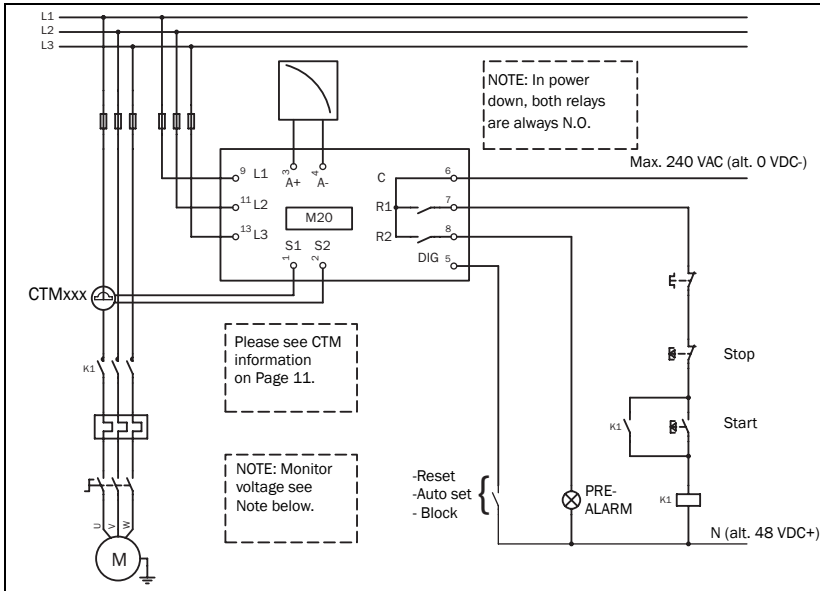
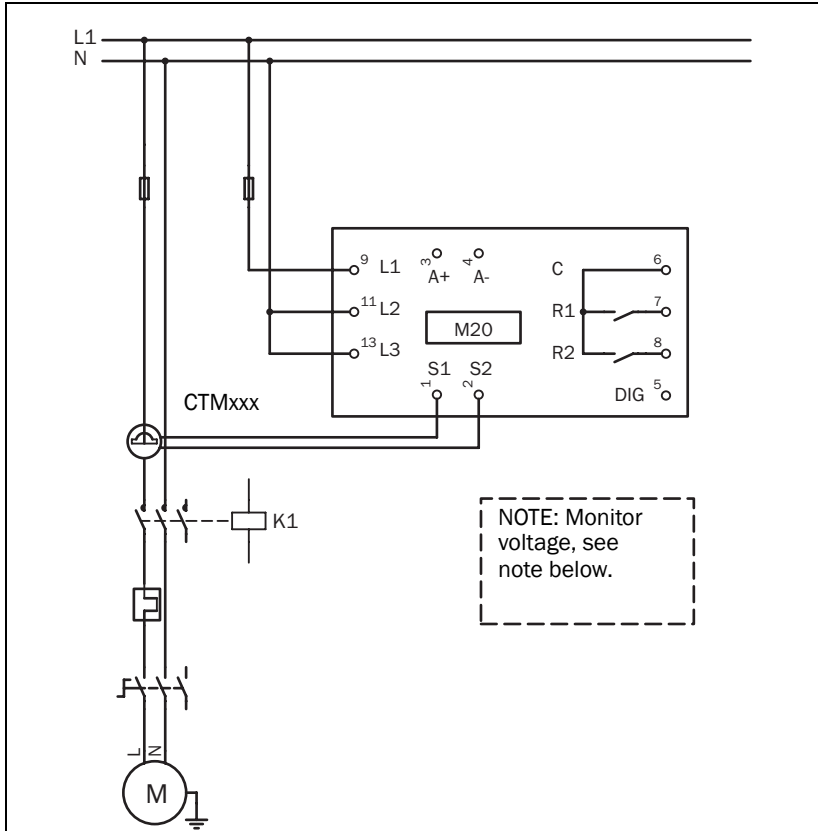

Fig. 1 Connection example
Fig. 2 Single-phase connection example.
1. Connect the Emotron M20 according to chapter 5 and Fig. 1.
The following wiring diagram provides an example of how the M20 can be connected to control the start/stop circuit of a three-phase motor, Fig. 1. Connections to a single-phase motor are described later in this manual (Fig. 2) as are the programming changes necessary for such applications. The default setting for the M20 is 3-phase.
1. The current transformer CTMxxx must be placed in the same phase that is connected to terminal 9, phase L1, see Fig. 1. Failure to follow this requirement will result in the monitor failing to function.
2. For single-phase connection see fig 2.
Note: The current transformer (CTMxxx) must be placed in the same phase that is connected to terminal 9, phase L1, see Fig. 1.
NOTE: If the START/STOP is connected as per Fig. 1, it is recommended that terminals 6 and 7 be bypassed during programming. After the programming is completed the bypass must be taken out. Make sure that the monitor voltage range e.g. 3x380-500 VAC matches the connected motor/line voltage, e.g. 3x 400 V.
This wiring example shows the connections required for single-phase applications. Refer to Fig. 1 for the remaining wiring.
NOTE: In Fig. 2 make sure that the monitor voltage range e.g. 1x100-240 VAC matches the connected motor/"line - neutral" voltage, e.g. 1x 230 V.
The digital input uses terminals 5 (DIG) and 6 (C - reference). Either a VAC or a VDC signal may be used. Connect + to terminal 5 (DIG) and - to terminal 6 for VDC signal. Please note the polarity when DC voltage is used. See also Fig1 and terminal 6: Max. 240 VAC (or 0 VDC-) and on terminal 5: N (or 48 VDC+). See also chapter 9, Advanced Features.